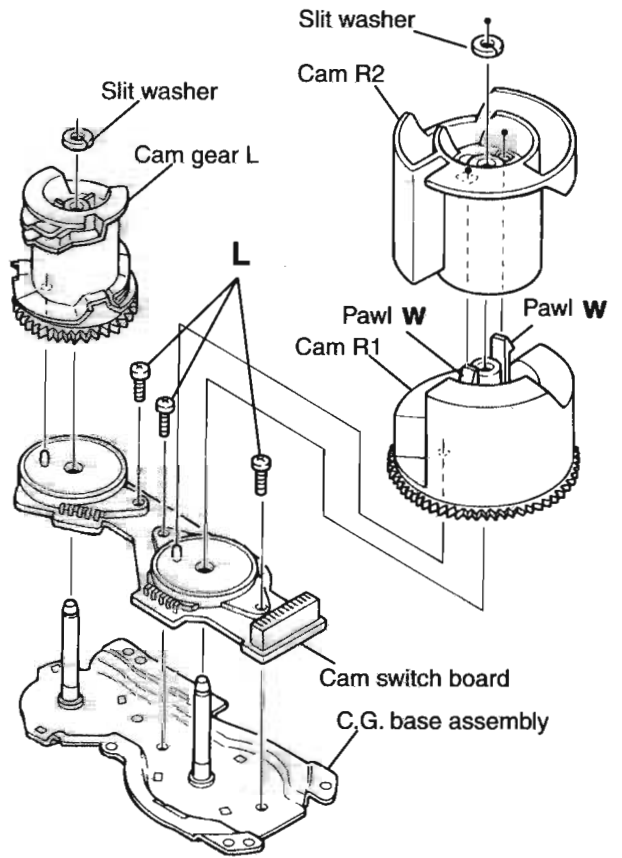

Fig.22
[Note] When the chassis assembly is turned over under the conditions wherein the gear bracket and belt have been removed, then the pulley gear as well as the gear, etc. constituting the gear unit can possibly be separated to pieces. In such a case, assemble these parts by referring to the assembly and configuration diagram in Fig. 22.
■ **Removing the cams R1/R2 assembly and cam gear q(See Fig.22)**
■ **Removing the C.G. base assembly (See Fig.22 and 23)**